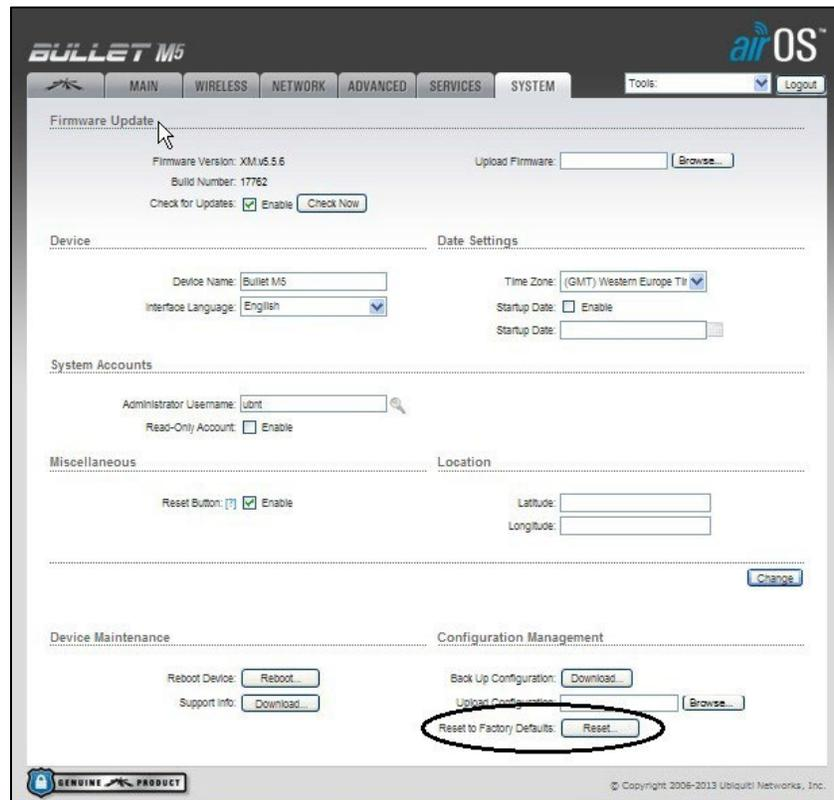

Figure 14. Selecting Reset to Defaults from within the Firmware
1. Go to the **SYSTEM** tab (Figure 14). At the bottom of the screen under Configuration Management will be an option to Reset to Factory Defaults.
2/16/2014	<p>Page 1, added 3rd bullet to Note at top of page stating this revision adds repeater to Bullet procedures</p> <p>Page 3, added 4th paragraph describing repeater</p> <p>Page 3 and 4, updated Directory with new Figure and page numbers</p> <p>Page 5, added breakdown of parts supplied for repeater in kit 941B0590C</p> <p>Page 11, added new Figure 13, Selecting AP-Repeater Wireless Mode</p> <p>Page 11, added new step 10 to explain AP-Repeater settings in firmware</p> <p>Page 11, added new NOTE to highlight WPA and WPA2 security methods are not available when using a repeater</p> <p>Page 12, modified Figure 14 to show AP-Repeater application</p> <p>Page 20, added paragraph Install Bullet M5 Repeater</p> <p>Page 23, added use of Ubiquiti Discovery Device Tool to find IP address of unknown</p>